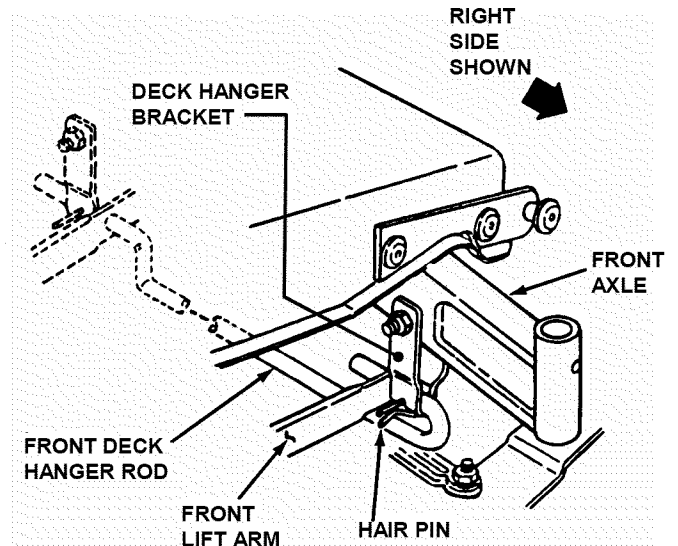

FIGURE 4.20
5. Remove hair pins from the front deck hanger rod and slide out the rod from deck hanger bracket. Front lift arms will now be disconnected. See Figure 4.20.